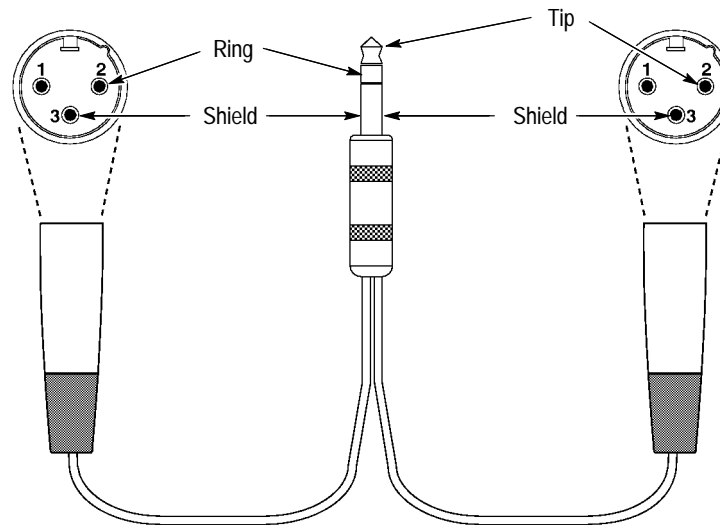

Figure 3-2: Cable connections for headphone output verification
1. Connect the 764 Digital Audio Monitor headphone output to the AM700 **Analog In:A** and **Analog In:B** connectors with a stereo phone plug (1/4 inch)-to-XLR adapter as illustrated in Figure 3-2.